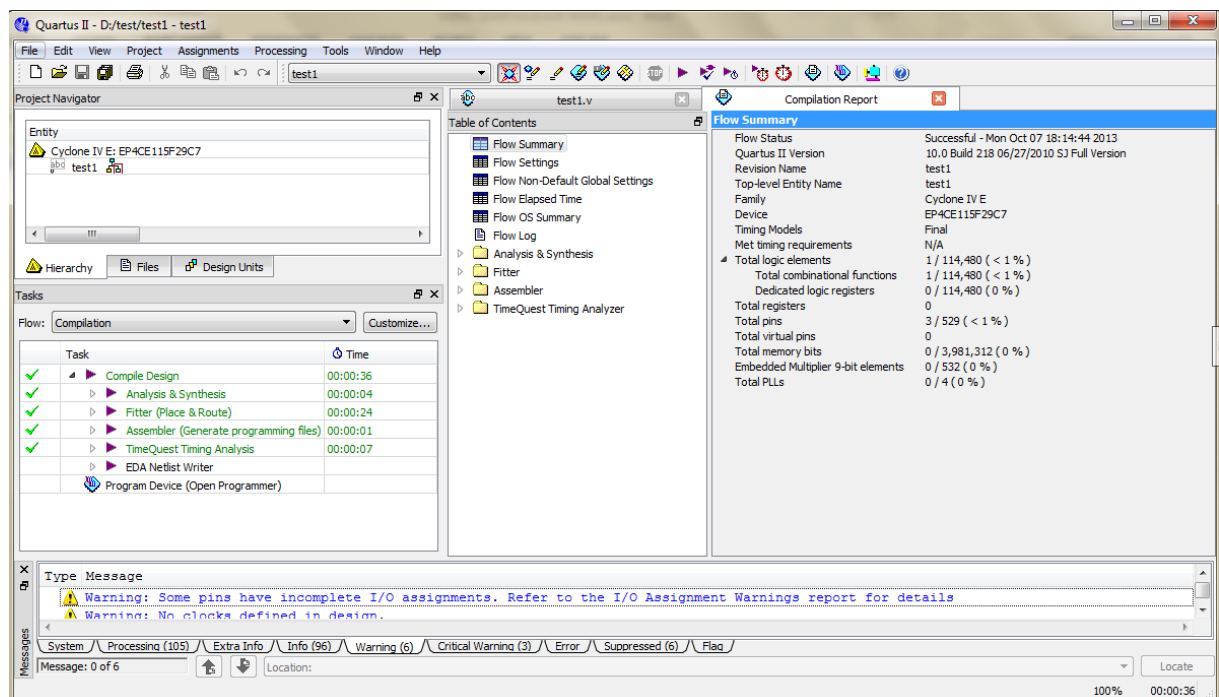
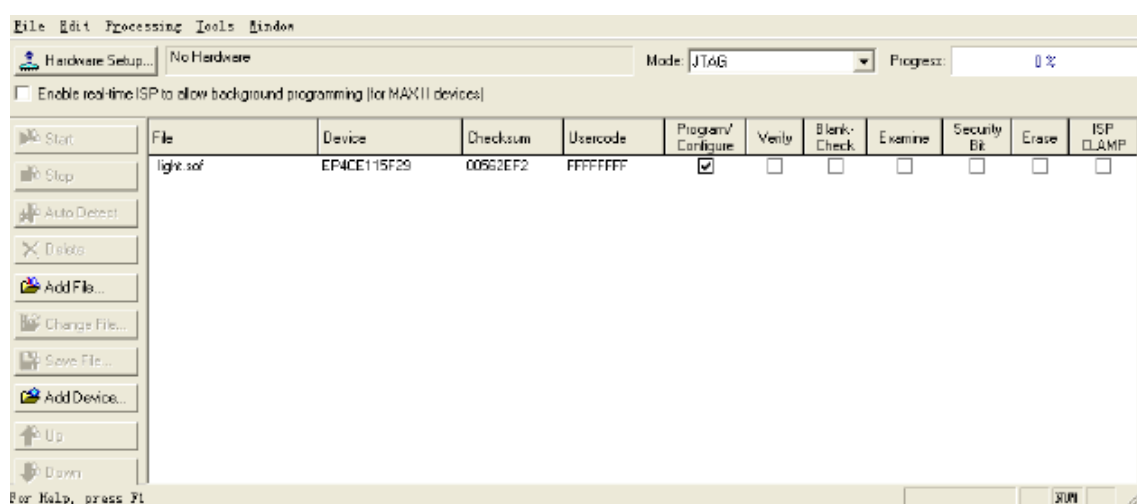

Figure 18. The Compilation report and message part.
Figure 20. Programmer
- Connect the FPGA device to computer and power on. Flip the **RUN/PROG** switch into the **RUN** position. **Select Tools > Programmer** in the Figure 18, the open window is Figure 20